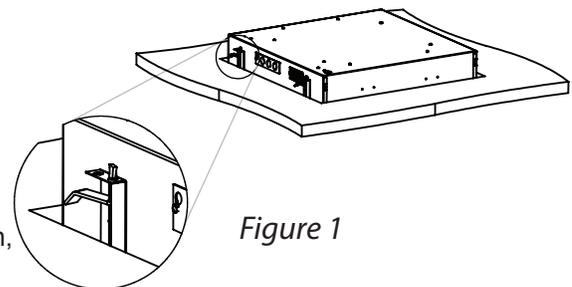

Figure 1
3. These fixtures are not Insulated Ceiling (IC) rated. Maintain the proper distance from insulation (3 in [76 mm] in the US and Canada).
- **Hard Ceilings:** Verify that the locations in which you intend to mount the fixtures are free of above-ceiling obstructions such as ceiling joists, air conditioning ducts, etc. For ease of installation, a minimum of 8 in [203 mm] of clear height above the ceiling is recommended. In accordance with drawings provided by **Brightline** or the local architect or engineer, prepare the ceiling by cutting openings that are 24.56- x 24.56-in [624- x 624-mm] in size. Depending on ceiling construction, it may be necessary to install a frame in the opening to accommodate the weight of the fixture. Install the power and control wiring as described above. With the mounting clips in their recessed position (folded back next to the fixture, see figure 1), lift the fixture into its opening.